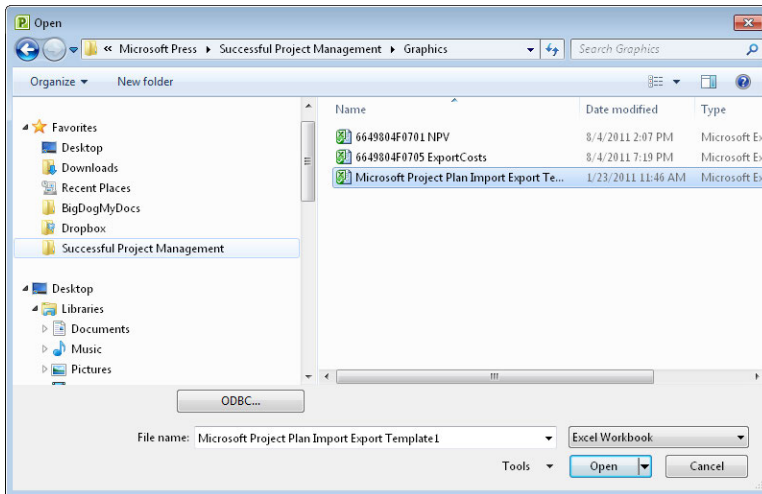

FIGURE 5-6 When you choose Excel Workbook, the dialog box displays all the Excel files in the folder.
8. Below the folder list, click the Microsoft Project Files button, and then choose Excel Workbook, as shown in Figure 5-6.